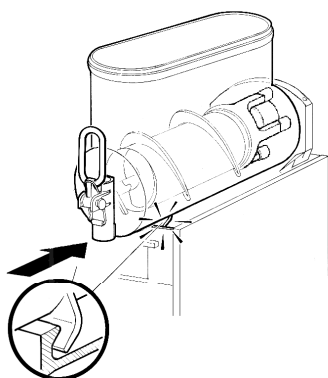

figure 17
- 7 - Push the bowl towards the rear wall of the unit until it fits snugly around the gasket and its front fastening hooks are properly engaged (see figure 17).